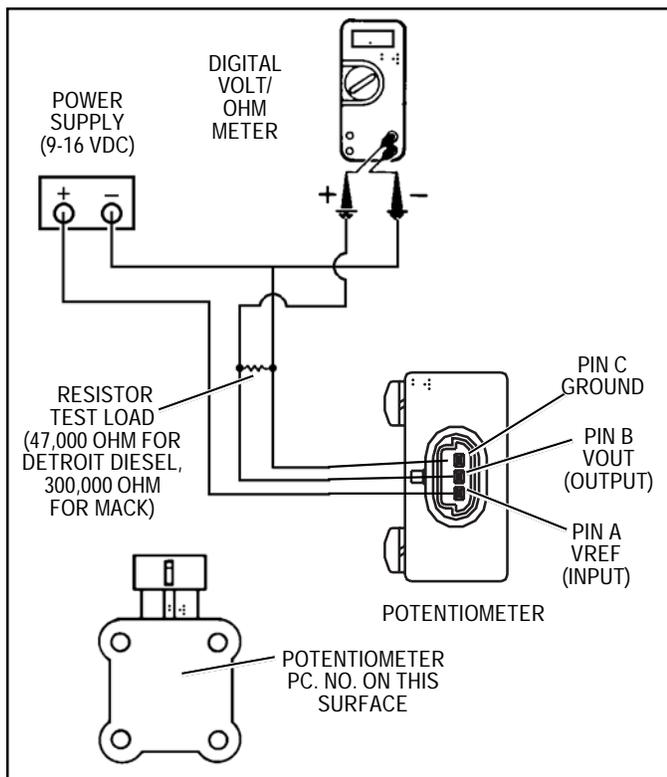

FIGURE 5 - ET-2™ TREADLE ELECTRICAL TEST SCHEMATIC FOR THE DETROIT DIESEL CONNECTOR
wear, or physical damage. Check end-to-end electrical continuity at terminals. NOTE: Potentiometer pin locations will remain constant (see Figure 5). However, cable assembly connector pin out may vary from engine to engine.
4. Connect the potentiometer to the volt meter and power supply as shown in Figure 5. NOTE: Power supply can be a 12 VDC vehicle battery in good condition and with known voltage output.
- Unplug the cable assembly from the potentiometer's integral connector by lifting the lock tab and pulling the connectors until they disengage. Inspect cable assembly for loose terminals, frayed wires, corrosion, wear, or physical damage. Check end-to-end electrical continuity at terminals. NOTE: Potentiometer pin locations will remain constant (see Figure 5). However, cable assembly connector pin out may vary from engine to engine.
- Connect the potentiometer to the volt meter and power supply as shown in Figure 5. NOTE: Power supply can be a 12 VDC vehicle battery in good condition and with known voltage output.